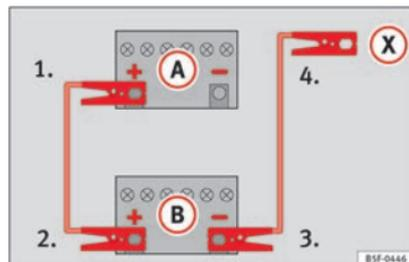

Fig. 69 Diagram of connections for vehicles without Start-Stop system.
- Connect one end of the *red* jump lead to the positive (+) terminal of the vehicle with the flat battery (A) »» Fig. 69.
- Connect the other end of the *red* jump lead to the positive terminal (+) in the vehicle providing assistance (B).
- For vehicles without Start-Stop system: connect one end of the *black* jump lead to the negative terminal (-) of the vehicle providing the current (B) »» Fig. 69.